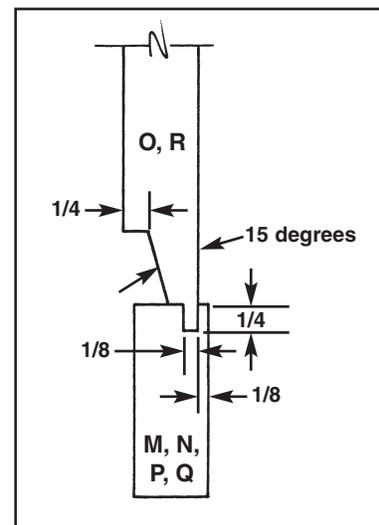

Figure 3
10. Cut raised panels (O) and (R) for cabinet doors. Refer to Figure 3.
11. Cut grooves in door frame components (M), (N), (P) and (Q) for cabinet door panels (O) and (R). Refer to Figure 3.
12. Assemble doors (M, N, O) and (P, Q, R) using glue and dowels. Check for squareness and clamp. Refer to Isometric and Figure 3.